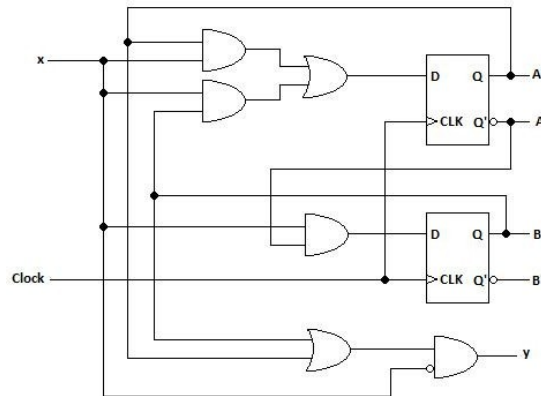
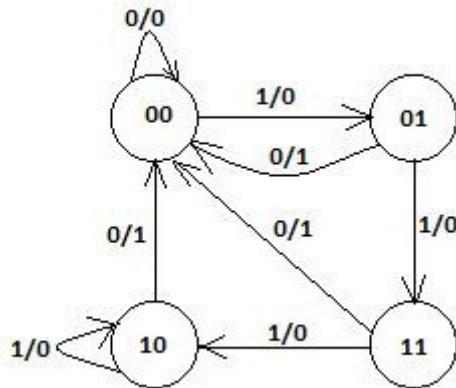

Fig.2: A Mealy Machine
Fig.3: State Diagram for the Circuit in Fig.2
2. **Analysis of a Mealy Machine:** *Analysis* helps us to predict the functions of a given circuit. Fig.2 shows a Mealy Machine whose output y is a function of input x as well as present state (AB).
2.2 State Table: A *state table* records the sequence of inputs, outputs and flip-flop states. The state table of the circuit in Fig.2 is as follows:
Table-1: State Table for the Sequential Circuit in Fig.2
2.3 State Diagram: The information available in state table can be represented graphically in the form of a *state diagram* where the state changes are more prominent. In a state diagram, a state is represented by a circle and the state transition between states is indicated by a directed line connected the circles. Fig.3 below depicts the state diagram for the circuit in Fig.2.